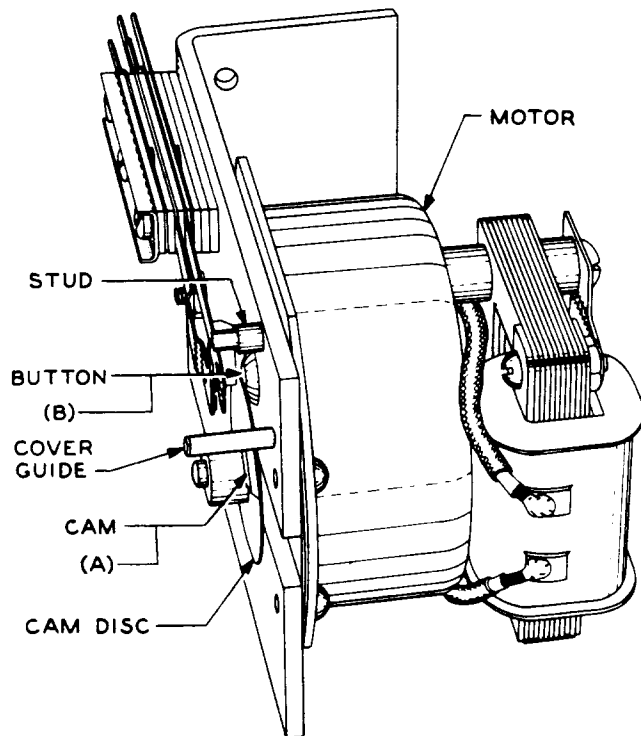
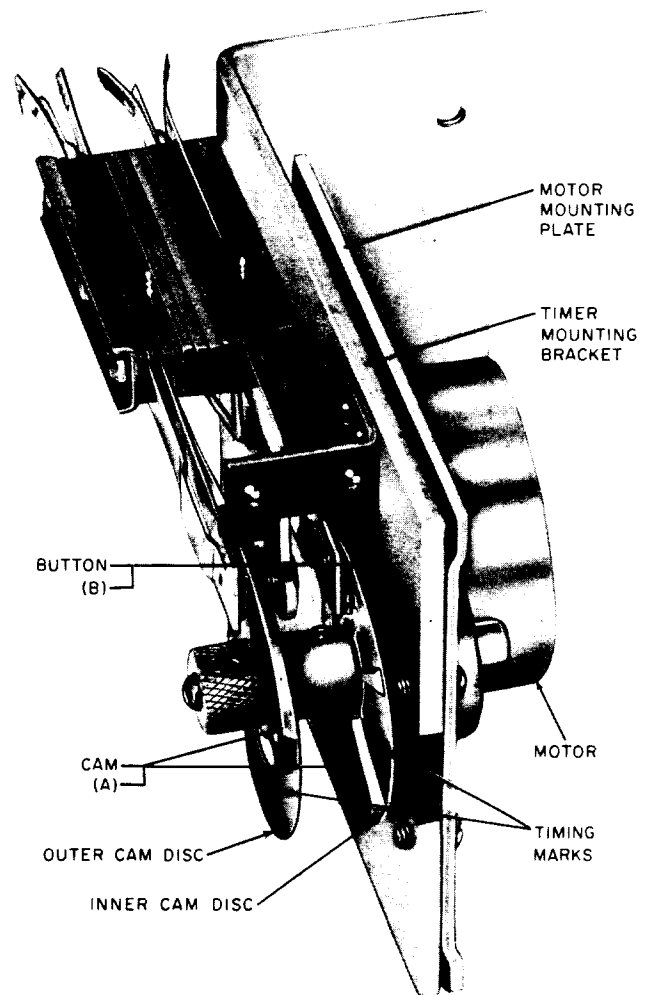

Fig. 1—2A Timer With Telechron Motor
Fig. 2—4A, 4B (Mfr Disc.), and D-171689 Timers With Haydon Motor (4B Illustrated)
(a) **Fig. 1, (A) and (B); Fig. 2, (A) and (B): The face of the cam and the button** shall be adequately lubricated with KS-16832 L2 lubricating compound. When lubrication is necessary, one dip of the lubricant shall be applied with the KS-14164 brush to the face of the cam and the top of the button.